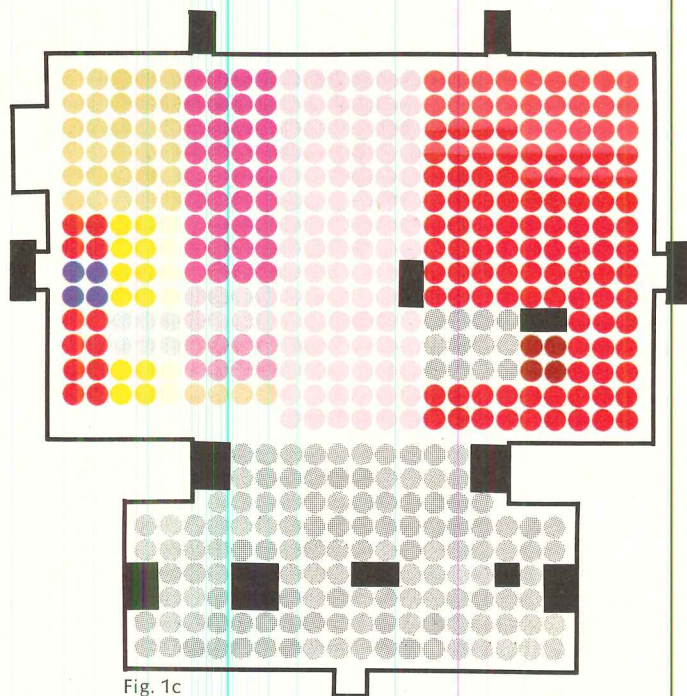

Fig. 1c
Gordon Friesen (3) has described the economic advantages and general adaptability of side-by-side arrangements of surgery and delivery and of emergency and outpatient departments, as in Fig. 1c. In this plan, radiology and other departments unfortunately separate emergency from surgery and delivery.